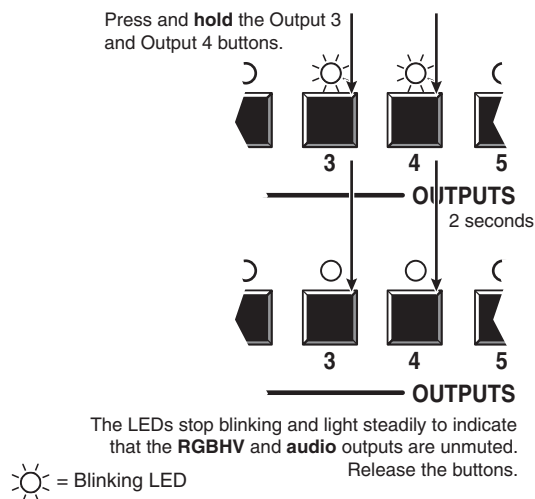

Figure 3-30 — Unmute the outputs
5. Press and **hold** the Output 3 button and the Output 4 button (figure 3-30) for approximately 2 seconds until the LEDs light steadily. The output 3 and output 4 video and audio signals are unmuted.